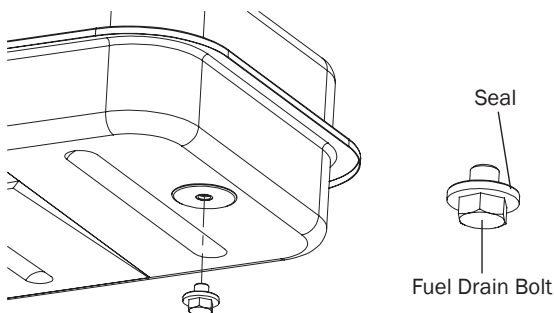

Figure 9 - Drain Plug Removal
1. Remove drain bolt from bottom of fuel tank . See Figure 9.